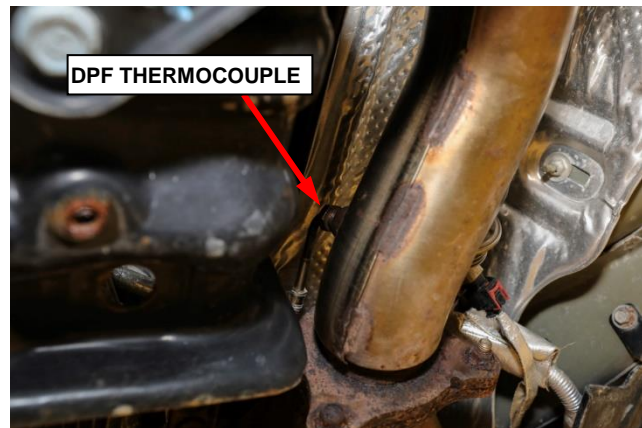

Figure 24 – DPF Thermocouple
48. Remove the thermocouple after the DPF (4/4) (Figure 24).